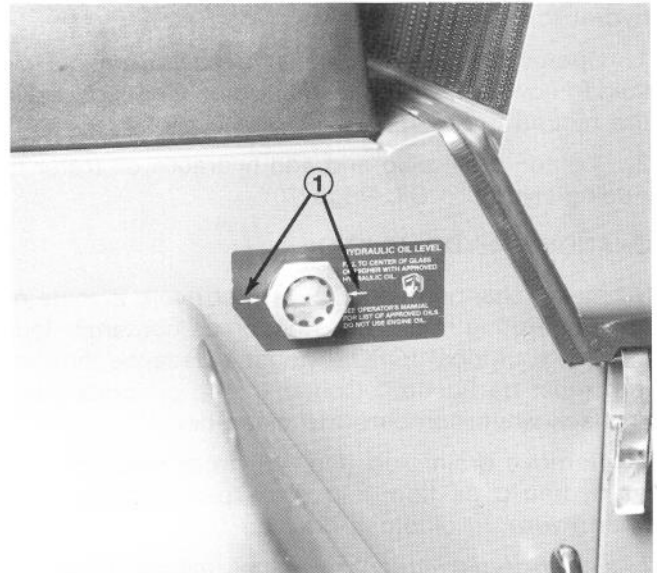
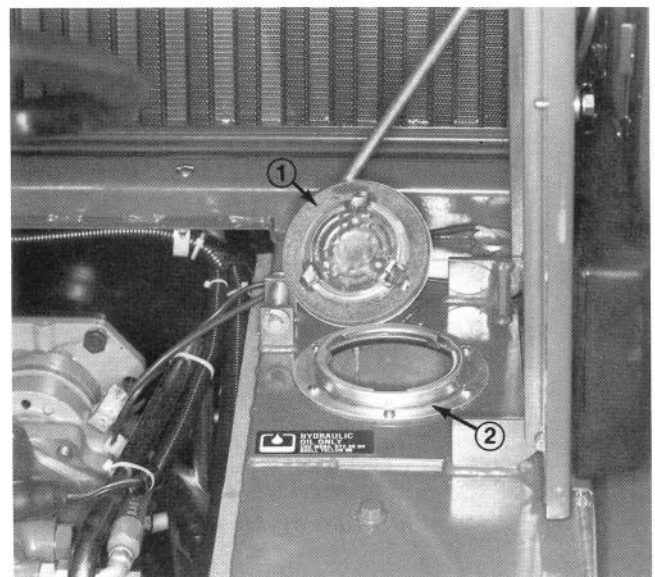

Figure 43
Figure 44
Capacity of the hydraulic reservoir is approximately 15 gal. (58 L). With machine on a level surface, hydraulic oil level should be 1/4 to 1/2 inch below arrows on sight glass, when oil is cold. Warm oil should be even with arrows on sight glass (Fig. 43). If level is low, add hydraulic oil. Refer to Hydraulic Oil Specifications (Page 8).
2. Clean around reservoir cover (Fig. 44). Remove cover and add hydraulic oil until it is even with arrows on sight glass (Fig. 43).
4. With cutting units up and oil warm, look into sight glass (Fig. 43). If hydraulic oil is not even with arrows, add enough to raise to proper level. Do not fill full if oil is cold.
6. Look into sight glass (Fig. 43). Hydraulic oil level should be even with arrows when oil is warm. If level is low, add hydraulic oil to the reservoir. Refer to Hydraulic Oil Specifications (Page 8).